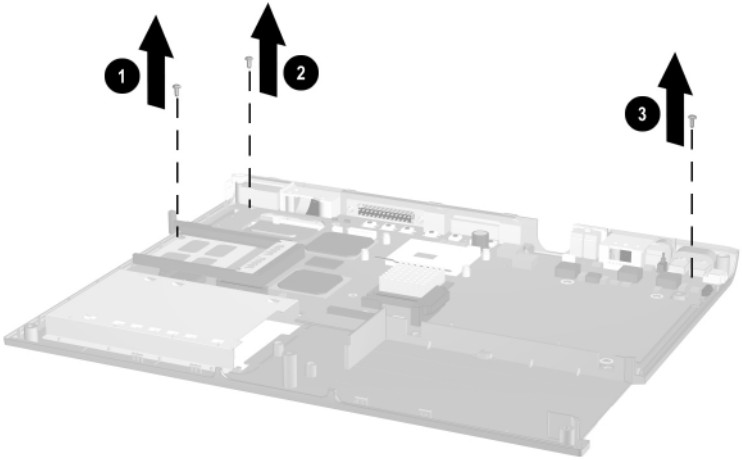

Figure 5-44. Removing the System Board Screws
- ❑ TM2.5 × 5.0 screw ❶ next to the PC Card assembly (Figure 5-44)
- ❑ TM2.5 × 5.0 screw ❷ next to the RJ-11 and RJ-45 connectors
- ❑ TM2.5 × 5.0 screw ❸ next to the audio connectors